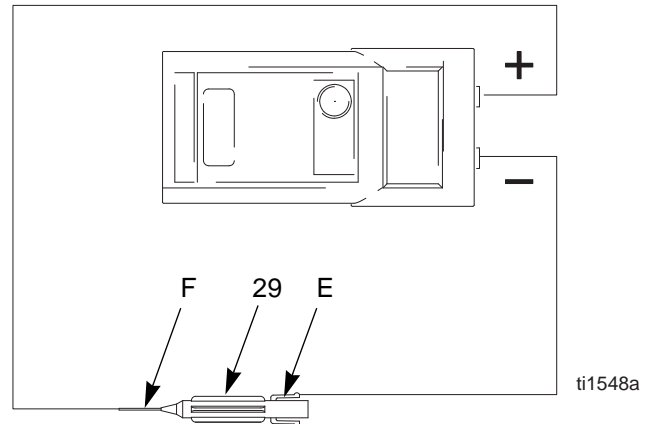

Fig. 21. Electrode
5. Remove the electrode (29), page 43. Measure the resistance between the contact (E) and the electrode wire (F). The resistance should be 20-30 megohms. If out of range, replace the electrode. See FIG. 21..